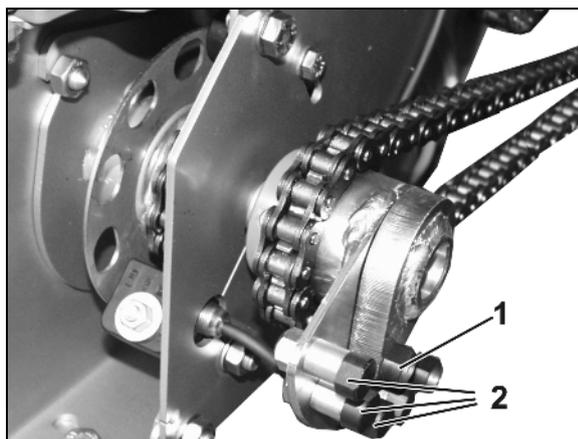

Fig. 126
If the dosing roller is blocked by foreign bodies in the dosing unit, a plastic screw (Fig. 126/1) is sheared and the drive mechanism is interrupted to avoid causing damage.
3. Remove the replacement screw (Fig. 126/2) from the bracket.